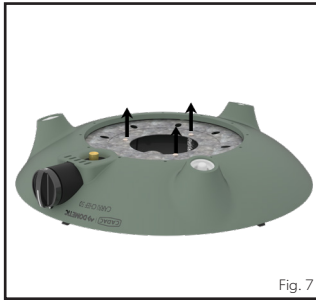
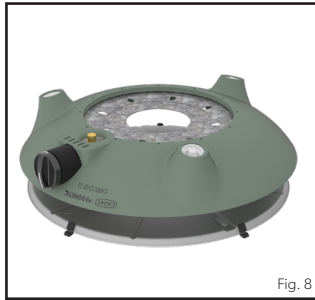
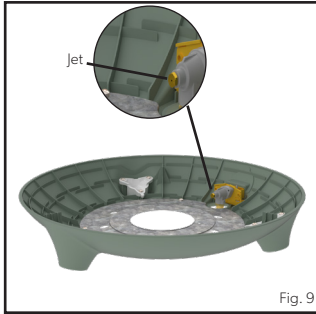

Fig. 7
Fig. 8
Fig. 9
- **To replace the jet:** Remove all loose surfaces as well as the utility tray and legs from the appliance. Turn the burner base over and remove the 3 screws from the bottom cover plate (fig.7) to separate the burner base from the burner assembly (fig. 8). Disconnect the Piezo wire, taking care not to damage it and remove the burner assembly from the body of the burner base to expose the jet (fig. 9). The jet can now be removed using a suitable spanner. Do not use pliers as this can damage the jet, making it unusable or impossible to remove. Screw the new jet into the valve. Do not overtighten as this may damage the unit.